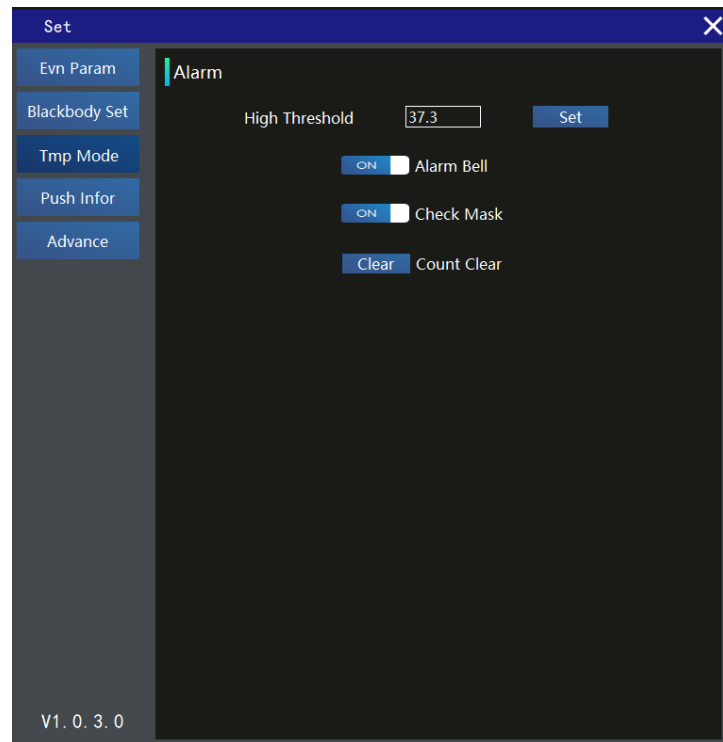

Figure 10 Temperature Measurement Setting
2.Temperature measurement mode configuration: as shown in figure 10.